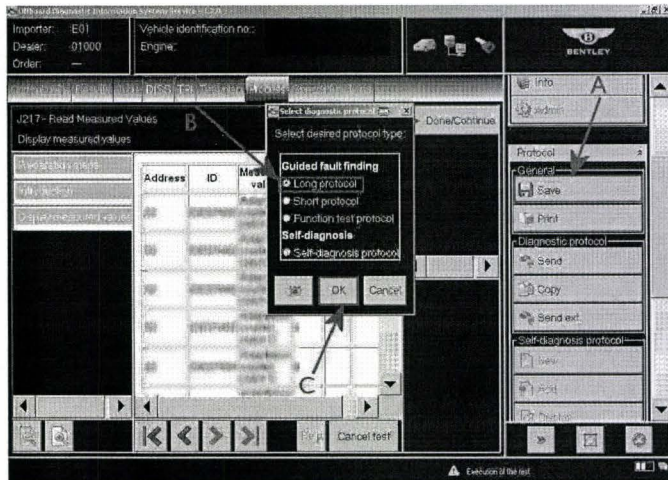

Figure 18
- Referring to Figure 18 (Point A) select Save